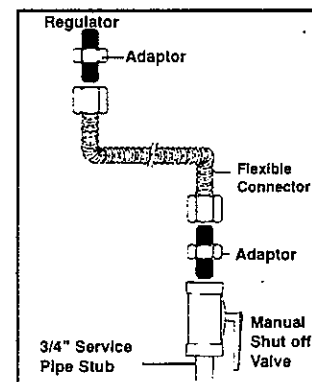

Fig. 5
- Connect gas supply to regulator using a flexible connector, as shown in Figure 5. Pressure regulator supplied with this range has a 1/2-inch NPT female connection.